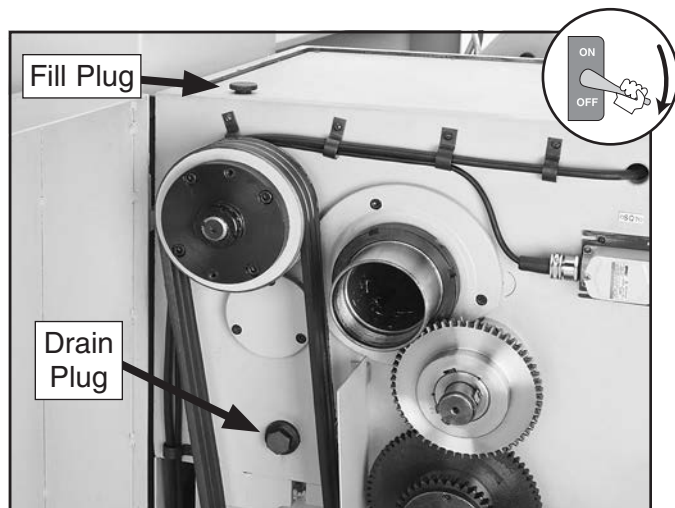

Figure 112. Headstock fill and drain plugs.
The oil fill plug is located on top of the headstock, as shown in **Figure 112**.
5. Place a 5-gallon catch pan under the headstock drain plug (see **Figure 112**), then remove the drain plug with a 24mm wrench.